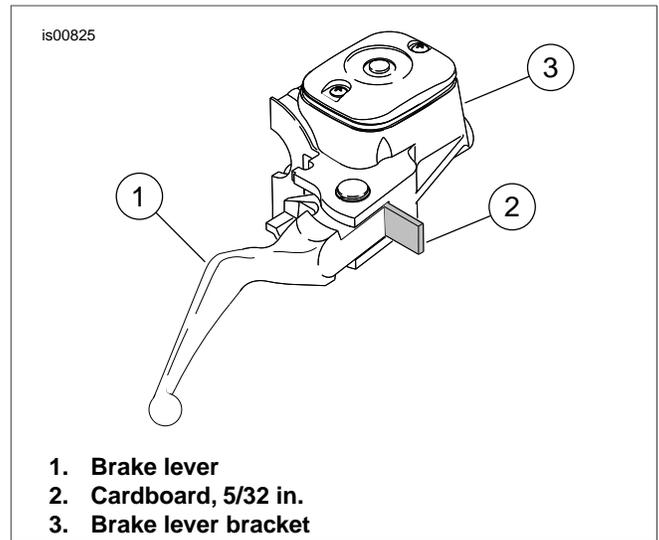

Figure 7. Install Cardboard Insert
1. See Figure 7. Place cardboard insert between brake lever and lever bracket.